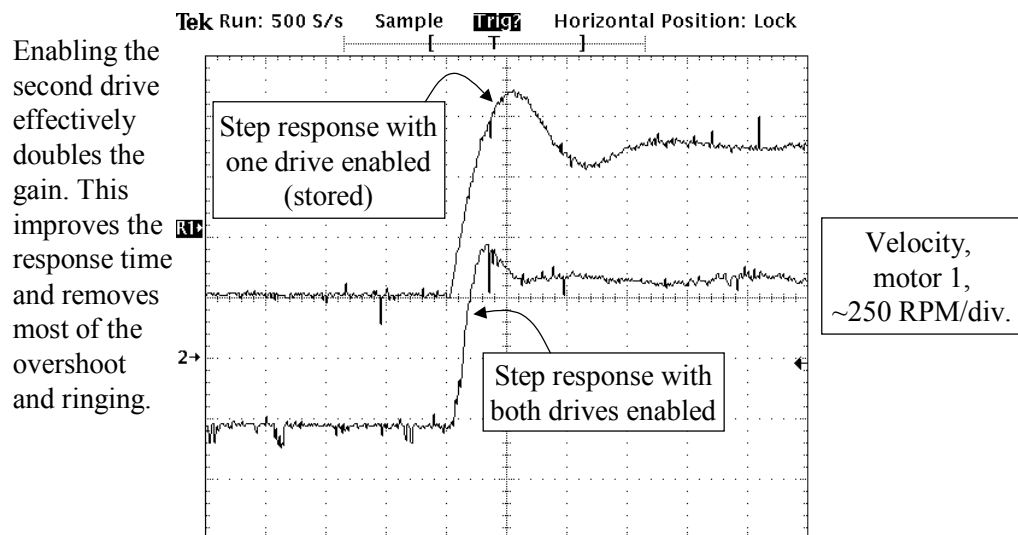

Figure 12: Step Motor Response
- Observe the step response of one motor or the other (Figure 12). The step response should change from the top waveform when one drive is enabled to the bottom waveform when both are enabled.